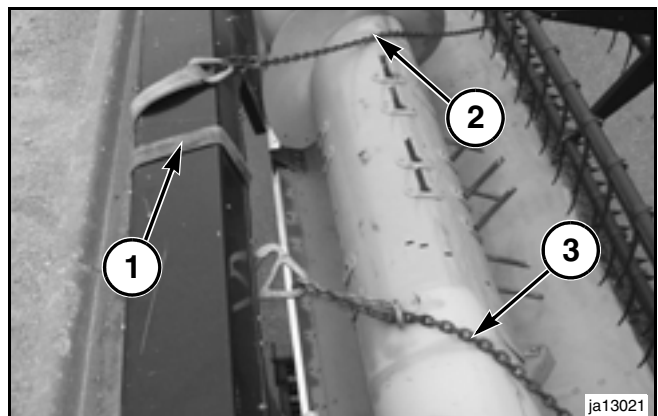

FIG. 10
FIG. 10: Wrap a nylon strap (1) around the truss assembly above the feeder house opening, attach a chain (2) and (3) to each end of the strap, and then tie-down forward and to the sides as shown in the figure.